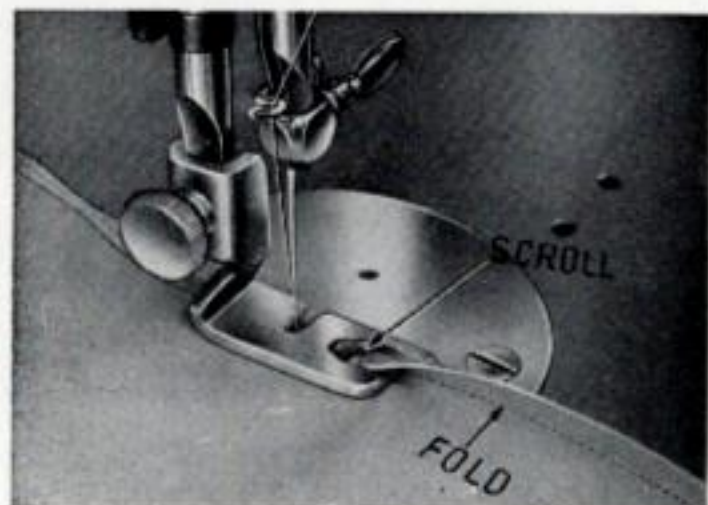

Fig. 28
Turn balance wheel toward you until needle reaches its highest point. Raise presser bar and remove regular presser foot. Attach hemmer foot (fig. 28). Set needle position indicator in center notch. Now handle material as follows:
3. Lower presser foot and begin to sew. Guide material into hemmer foot while proceeding with work (fig. 28).